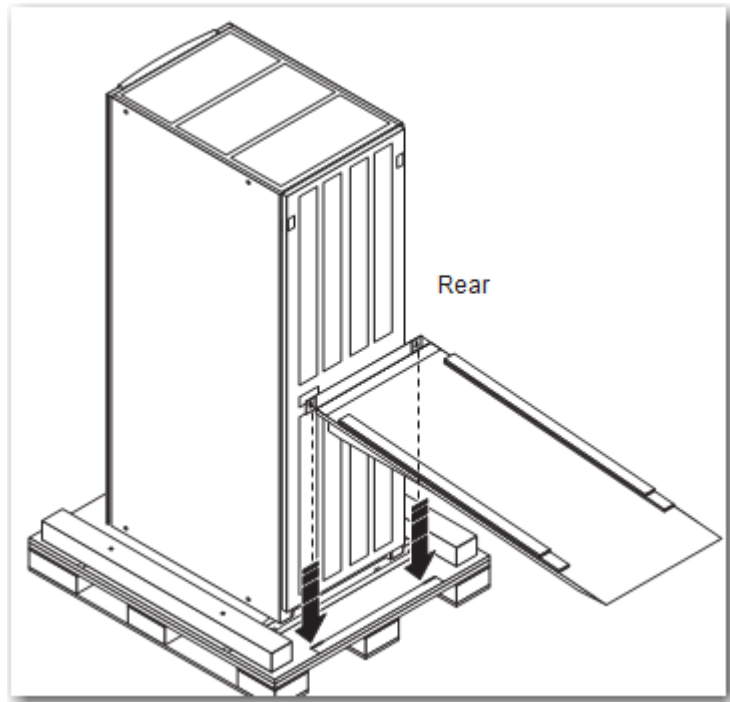

Figure 14 Inserting the ramp brackets
1. Insert the ramp brackets into the pallet notches in the rear of the cabinet (Figure 14).